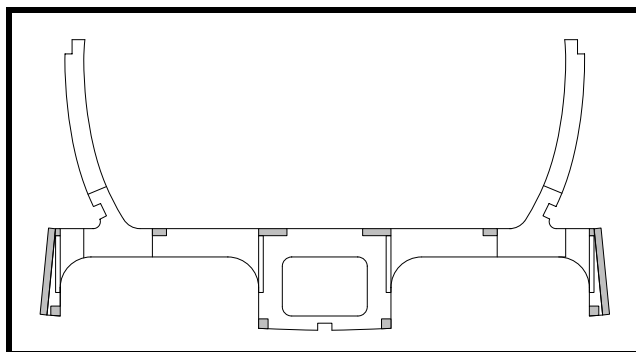

Figure 28
- ❑ For wheel well door installation—install 10x10 spruce gluing strips on the forward and aft face of fuselage frame No. 5 for the wheel well skin. Before they are installed, the outboard strips must be cut the angle of the skin. See Figure 28.
- ❑ As shown in Figure 28, install the 10x40 piece of spruce between Sta. 2 and Sta. 2-1/2. This may be seen on Detail S and Detail T of Drawing No. 201, Sheet 4. This is part of the framing for the access panel for the removal of the landing gear leg.